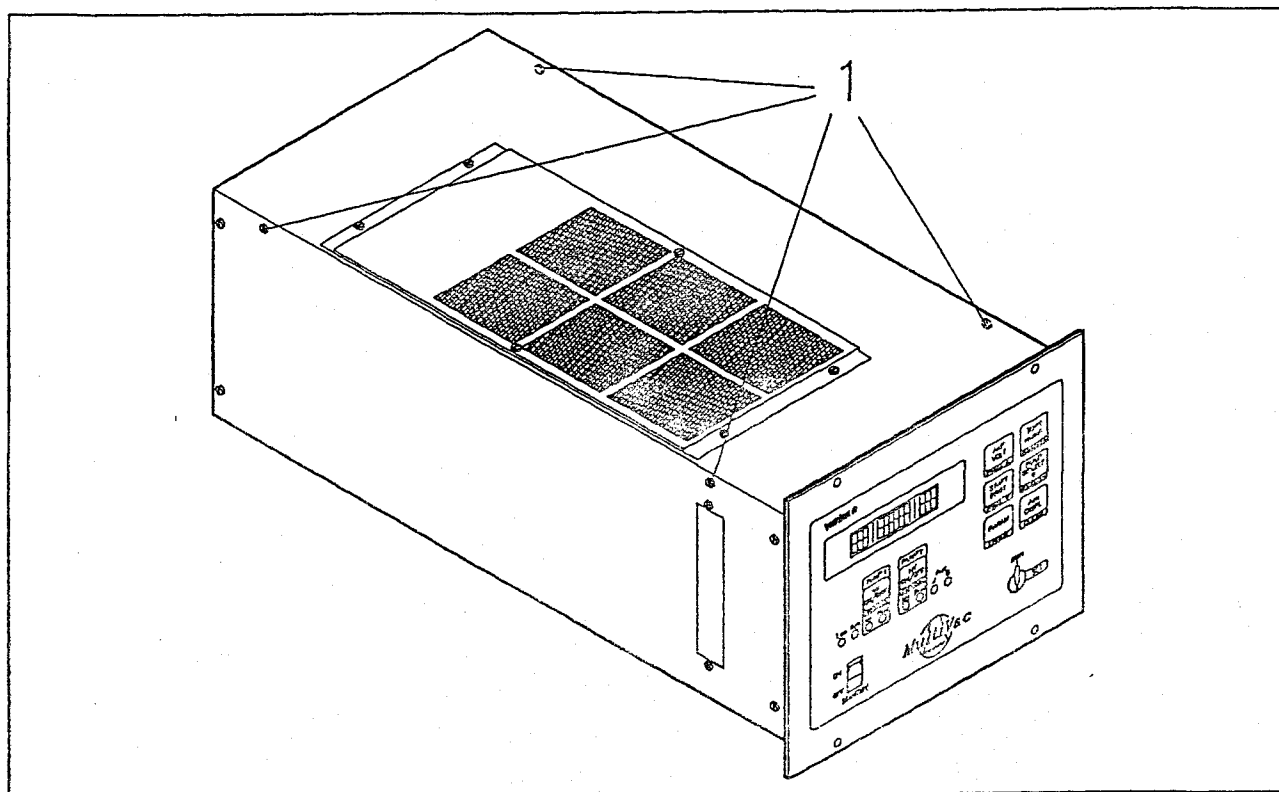

Figure 2-1 - Cover removing
- Open the unit by removing the four screws (1) aside of the unit (see Fig. 2-1)